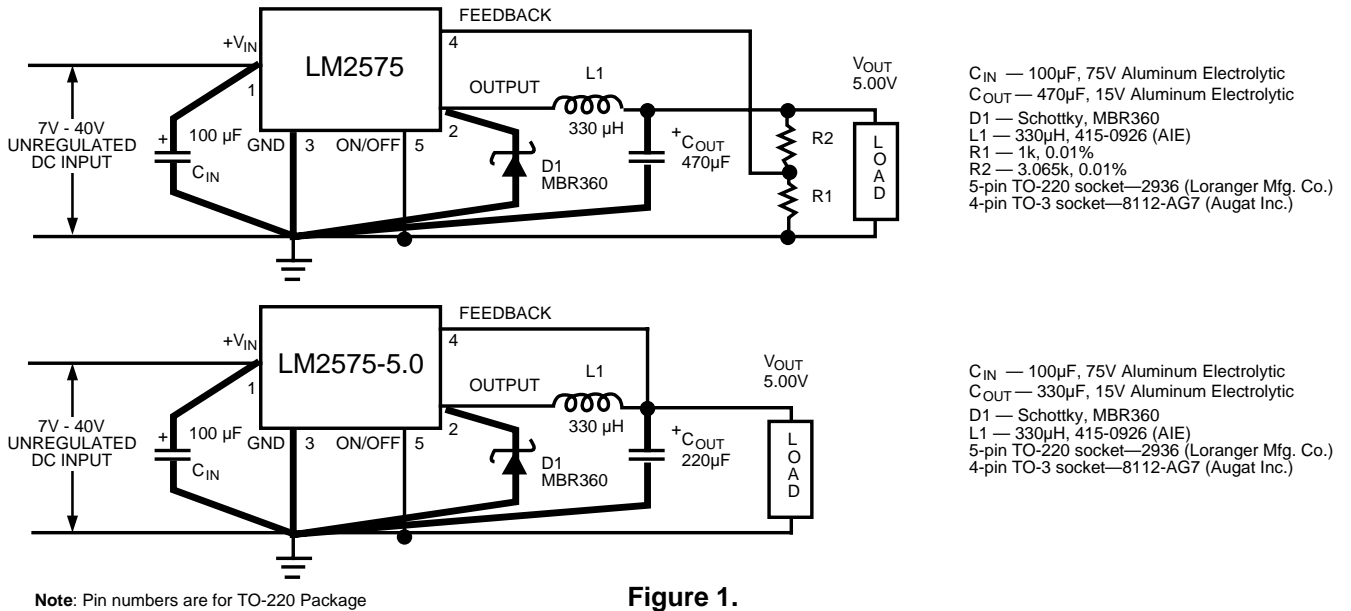

Figure 1.
SYSTEM PARAMETERS, ADJUSTABLE REGULATORS (Note 3) Test Circuit Figure 1
SYSTEM PARAMETERS, 3.3V REGULATORS (Note 3) Test Circuit Figure 1
SYSTEM PARAMETERS, 5V REGULATORS (Note 3) Test Circuit Figure 1
SYSTEM PARAMETERS, 12V REGULATORS (Note 3) Test Circuit Figure 1
ON/OFF CONTROL, FIXED and ADJUSTABLE REGULATORS Test Circuit Figure 1
**Note 3:** External components such as the catch diode, inductor, input and output capacitors can affect switching regulator system performance. When the LM2575/LM1575 is used as shown in *Figure 1* test circuit, system performance will be shown in system parameters section of Electrical Characteristics.
Typical Performance Characteristics (continued) (Circuit of Figure 1)
Typical Performance Characteristics (Circuit of Figure 1)